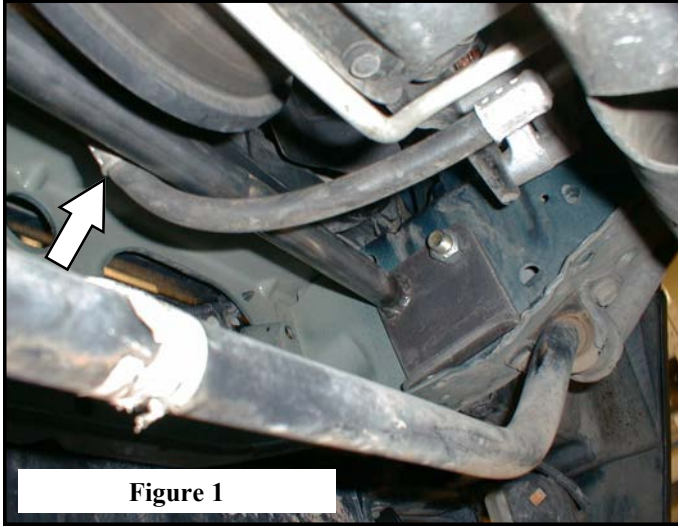

Figure 1
- Install the brace into the chassis. The brace must be routed "through" the transmission cooler hose. The arrow shows this in **Figure 1**.